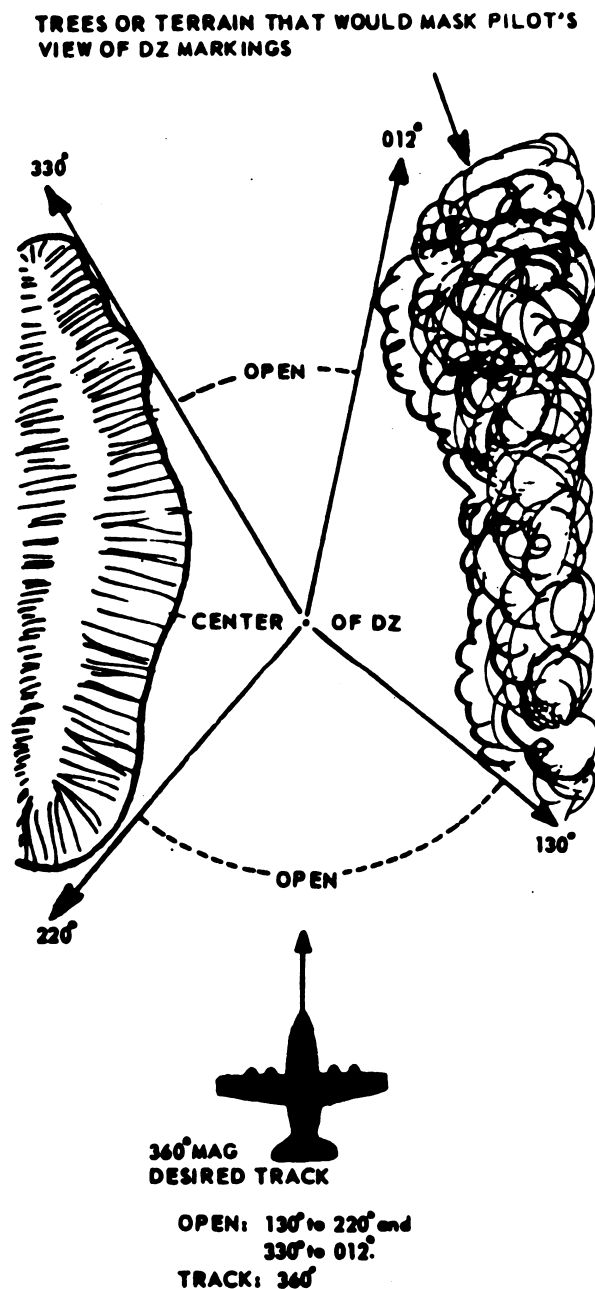

Figure 1. Computation of open quadrant and aircraft track (desired heading).
(1) Approach. It is desirable that the aircraft be able to approach the DZ from any direction and that there be an open approach quadrant of at least 45° to allow the aircrew flexibility to assume the appropriate approach track (fig. 1).